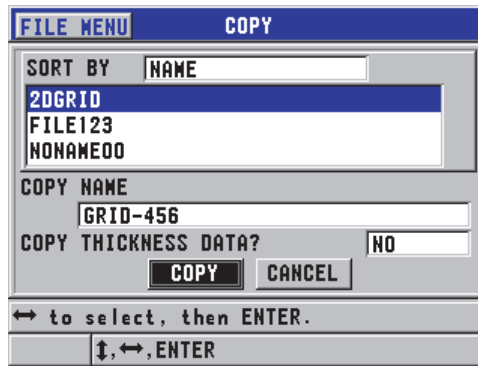

Figure 6-28 Copying a file
2. In the **COPY** screen (see Figure 6-28 on page 118):